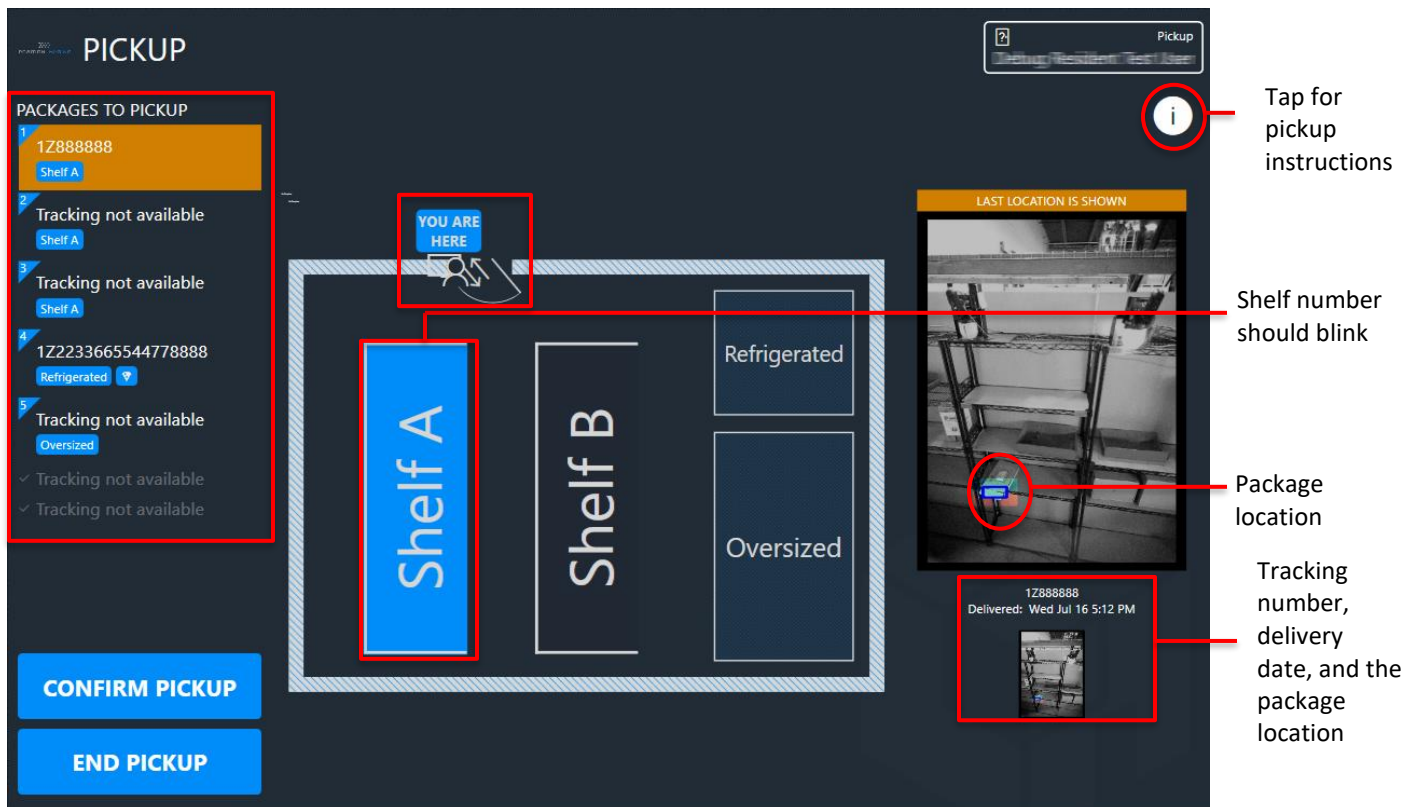

Figure 43: Room Map details
Some helpful guidelines about the Room Map, see Figure 43:
- The shelf number will blink blue indicating what shelf the package is on. See Shelf A in Figure 43.